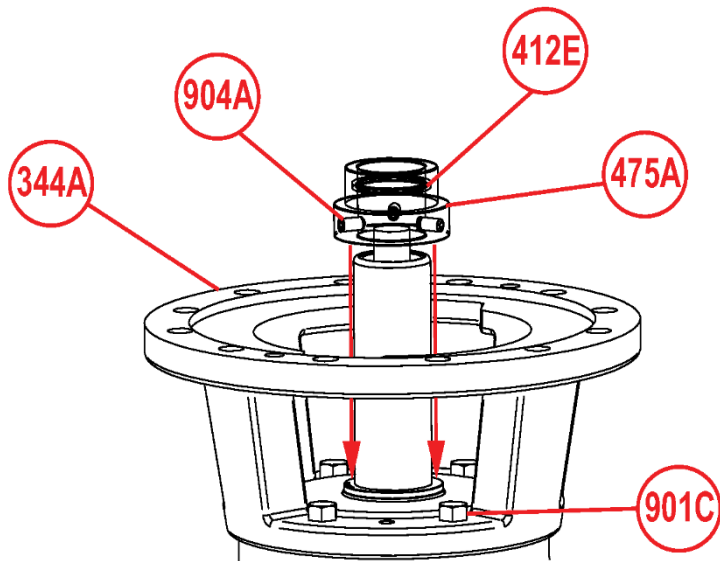

Figure 10-8: Thrust Ring
2. Slide the thrust ring (475A) with its O-ring (412E) and set screws (904A) onto shaft (210A) and place against the shaft shoulder and out of the way Figure 10-8.